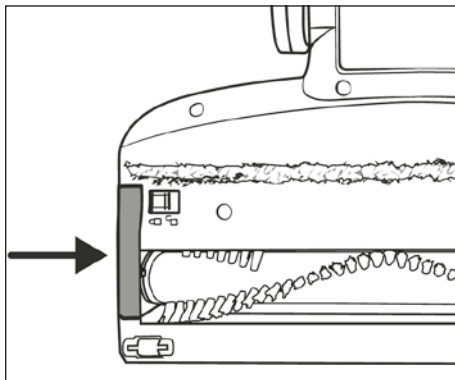

Fig. 27
- 6) Put the rotary brush holder 20 back into the floor brush 22. Push it down until it audibly clicks into the floor brush 22 (see Fig. 27).